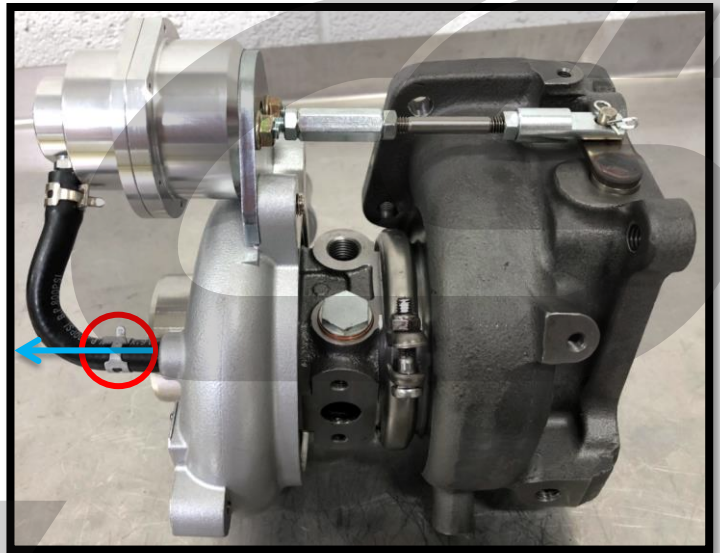
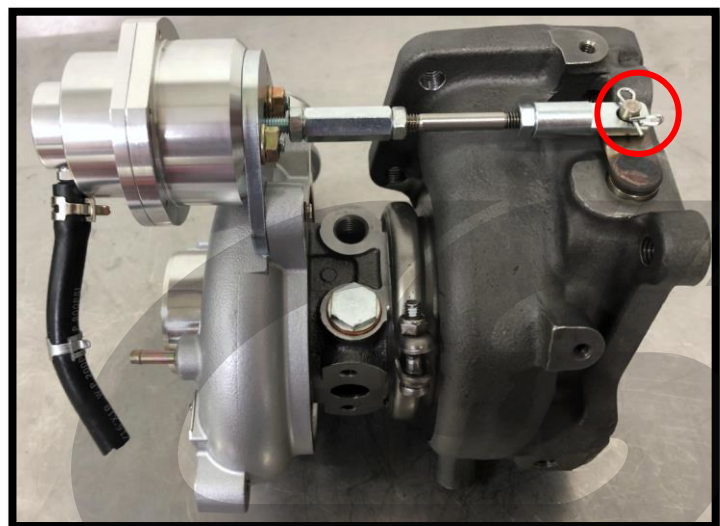

Figure 1a
Figure 1b
- a) Use pliers to release the spring clamp located on the boost pressure reference hose. Move the clamp up the hose and free from the fitting. Shown circled in red in **Figure 1a**.
- b) Pull the boost pressure reference hose off the compressor cover port. Shown with the blue arrow in **Figure 1a**. Shown removed in **Figure 1b**.